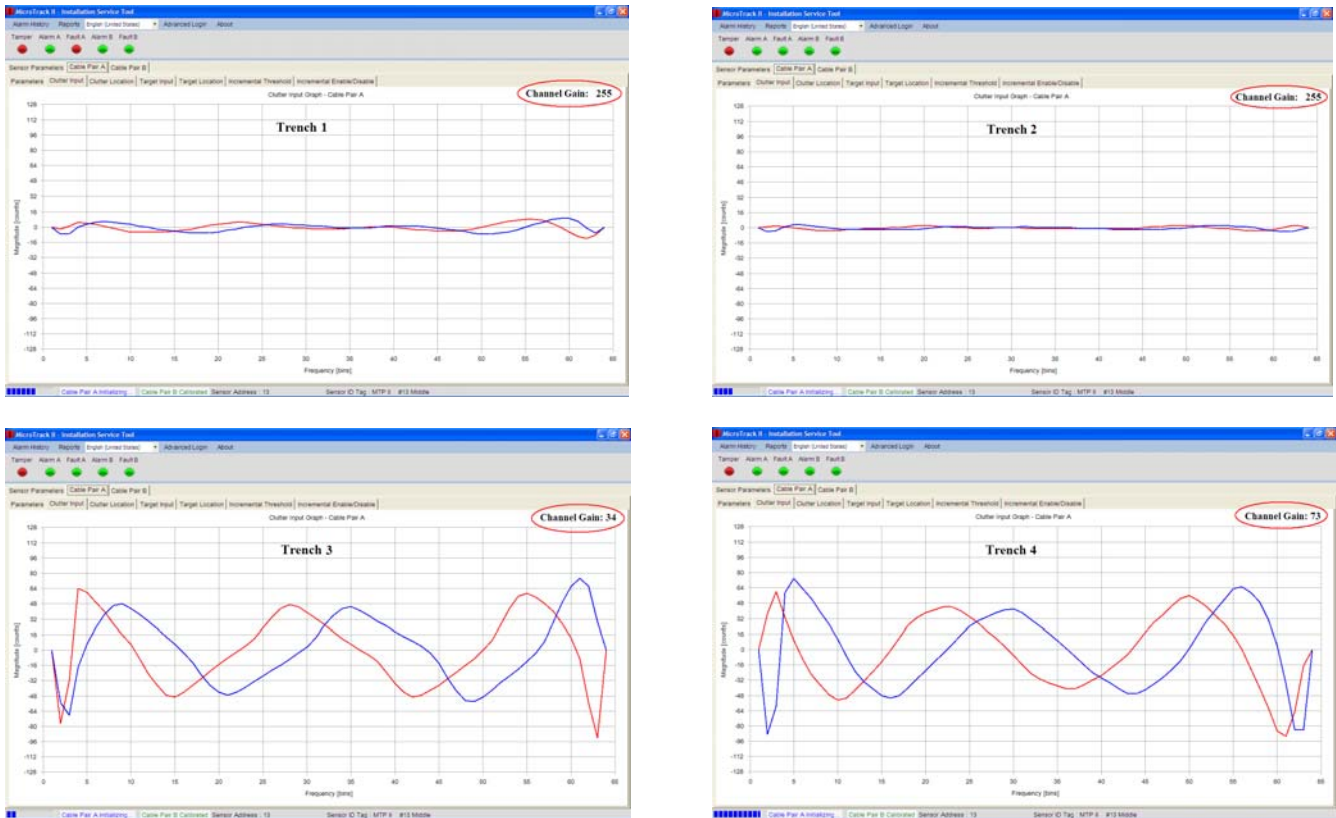

Figure 6
- On the UIST II, select the Clutter Input Screen for Cable A. Restore the defaults on the MTP II and allow it to set the Channel Gain value (also known as the AGC value) as shown in Figure 6.